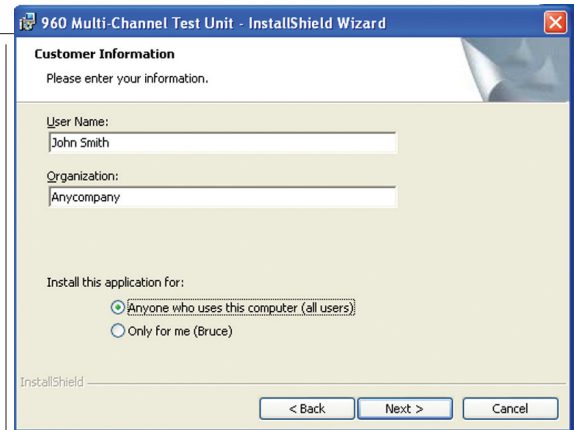

Figure 4.2.1 Customer Info Dialog Box
- f. You will now be presented the Customer Information screen. Shown in Figure 4.2.1. Fill in the User Name and Organization boxes.